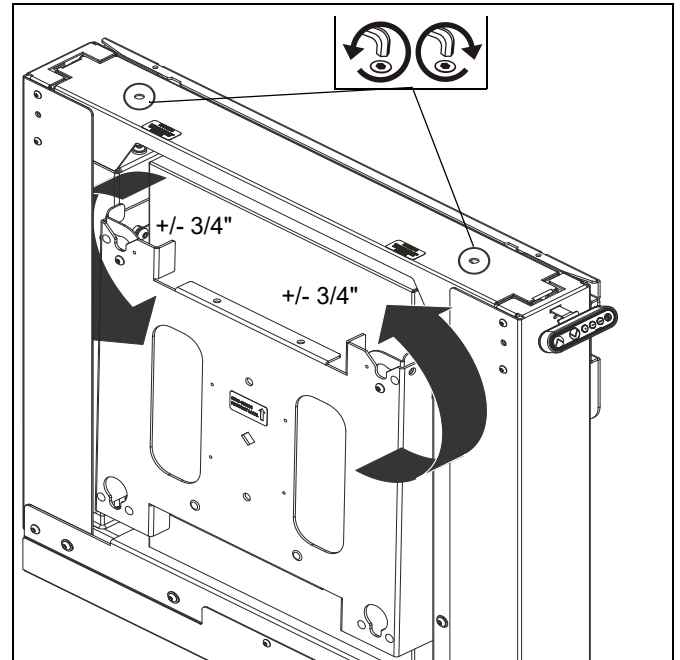

Figure 39
1. Adjust leveling adjustment screws through access holes to level mount as desired +/- 3/4". (See Figure 39)